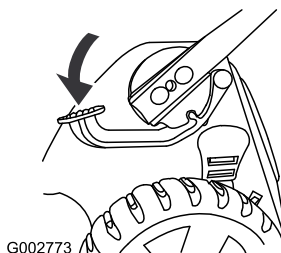

Figure 52
1. Step on the foot pedal and hold it down (Figure 52).